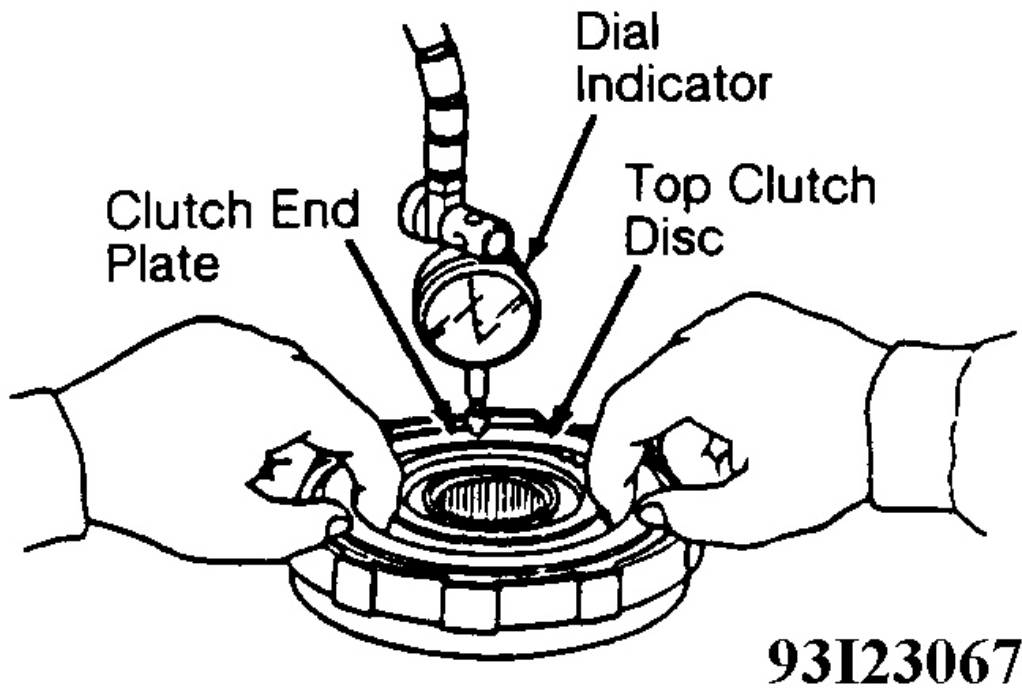

Fig. 30: Measuring Clutch Clearance
5. Momentarily apply air to oil passage on clutch drum, and ensure clutch piston moves and clutch engages. Using dial indicator, measure clutch clearance between clutch end plate and top clutch disc. See **Fig. 30**.